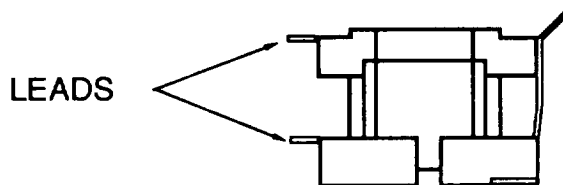

Figure 4-28. Time Delay Relay K6
(4) Time delay relay (K6). (See Figure 4-28.)